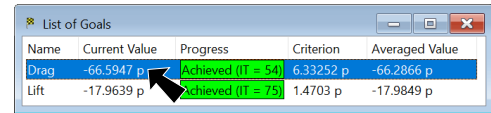

Fig. 16
Step 2. When the calculation is done view the drag in the Solver, click Insert Menu > Goal Table, **Fig. 16**. Our drag was **-66.59**.